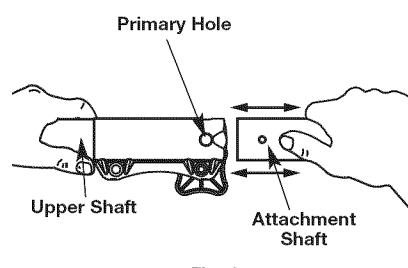
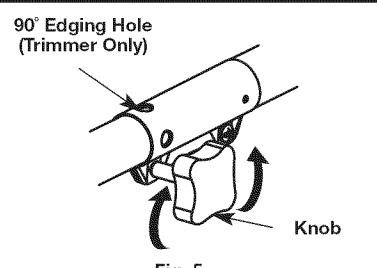

Fig. 4
Fig. 5
WARNING: Before operating this unit, be sure that the release button is fully snapped into the primary hole (Fig. 4), and that the knob (Fig. 5) is securely tightened.
3. Turn the knob clockwise to tighten (Fig. 5).
NOTE: When using an attachment for edging purposes, lock the attachment release button into the 90° hole (Fig. 5).
1. Turn the knob counterclockwise to loosen (Fig. 5).
3. While firmly holding the upper shaft, pull the attachment straight out of the Convertible™ coupler (Fig. 4).